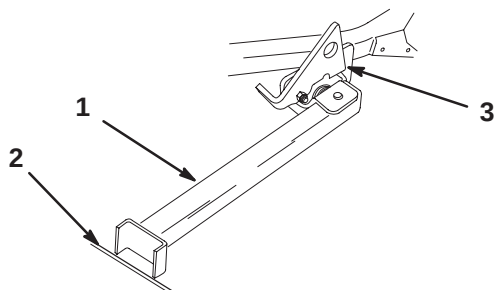

Figure 28
4. Set foot of stand on the ground and rest latch on pivot tab (Fig. 28).
Note: For best results, place foot of stand into seams in sidewalks or into turf (Fig. 28).
6. Drive onto stand. Stop when latch drops over tab into locked position (Fig. 28). Once onto stand, engage parking brake. Shut off engine.